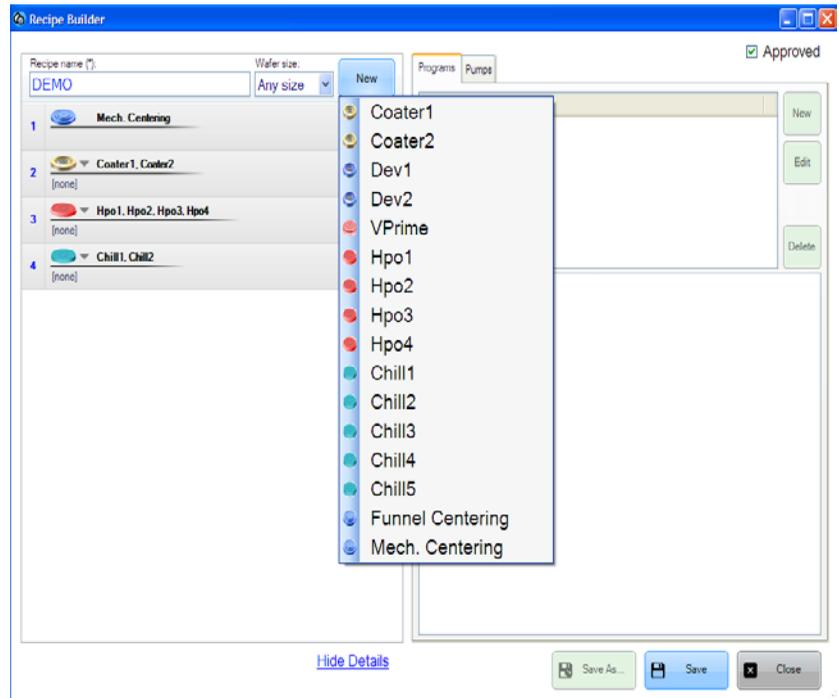

FIGURE 3-26: Creating a work flow
5. In the Click **New** and create a work flow by selecting the desired modules from the list menu. See Figure 3-26.